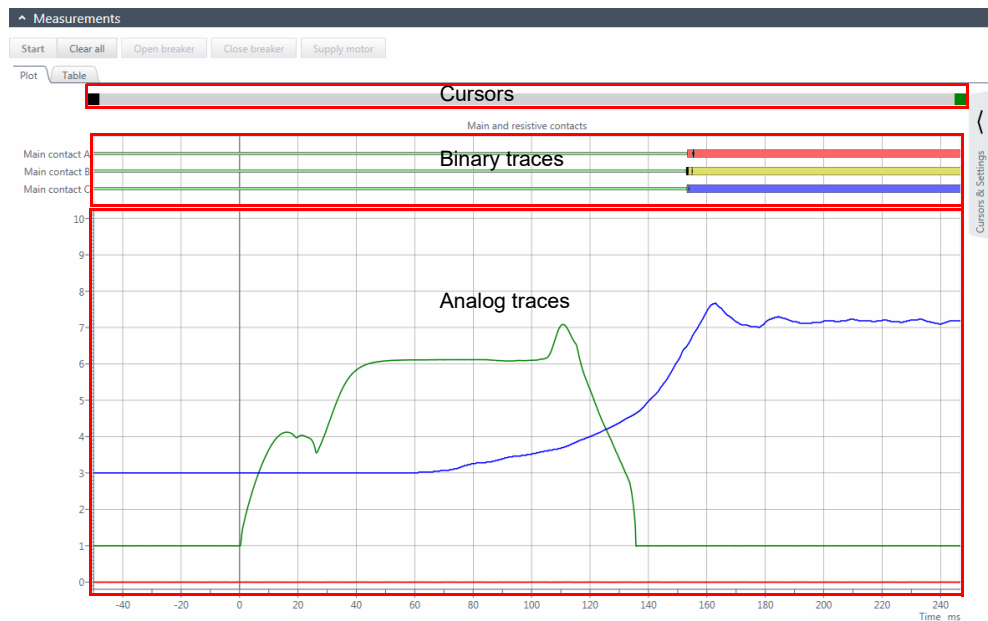

Figure 13-1: Example of the graphical display of measurement data
For some tests, *Primary Test Manager* provides graphical display of measurement results. The graphical display of the measurement results consists of the following parts (see Figure 13-1: "Example of the graphical display of measurement data"): cursors, binary traces and analog traces. *Primary Test Manager* displays the analog traces in the oscilloscope view.
Because the graphical display may contain curves with different units, for example, Volts, Amperes or Ohms, the scale on the Y-axis has no units but a unitless numbers called division (div). On the **Settings** tab, you can set how many, for example, Amperes shows the graphical display per division. As an example, the B-2 (A) channel in Figure 13-1: "Example of the graphical display of measurement data" on page 83 has its highest peak at the seventh division. As the offset on the Y-axis is 1 division and the magnitude is 1 A/div (see Figure Figure 13-3: "Cursors & settings workspace: Settings tab" earlier in this chapter), the peak close coil current is approx. $(7-1) \times 1 = 6$ A.